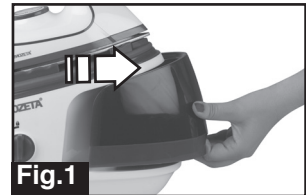

Fig.1
- Place the iron on the boiler support base (2).
- Completely unwind the cord (7) and plug into the outlet.
- To turn on the appliance, turn the knob (6) to the ON position
- Turn the iron temperature control knob (10) to the desired temperature (SEE THE PARAGRAH “ADJUSTING TEMPERATURE OF THE IRON”) (figure 1).
- The indicator lamp (11) on the iron will light up immediately and turn off after a few minutes, once the desired temperature has been reached.
- When the indicator lamp (11) on the iron turns off, the appliance is ready for use.
- The indicator light (11) on the iron will light up and go off automatically while ironing to show that the soleplate is being kept at a constant temperature.
- To turn off the appliance, turn the knob of thermostat to the min position, then turn the knob (6) to the OFF position.
- Rest the iron on the support base (2) and wait for the appliance to completely cool down before putting it away.